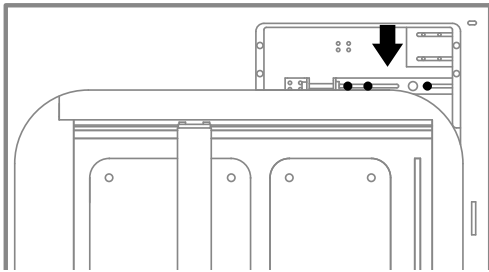

Fig. 13.59 Loosen the three screws of the tighten mechanism.
9. To tighten the cord, use a 7 [mm] wrench and loosen the three screws marked in figure 13.59.
11. Using a 7 [mm] wrench, tighten back the three screws marked in figure 13.59.